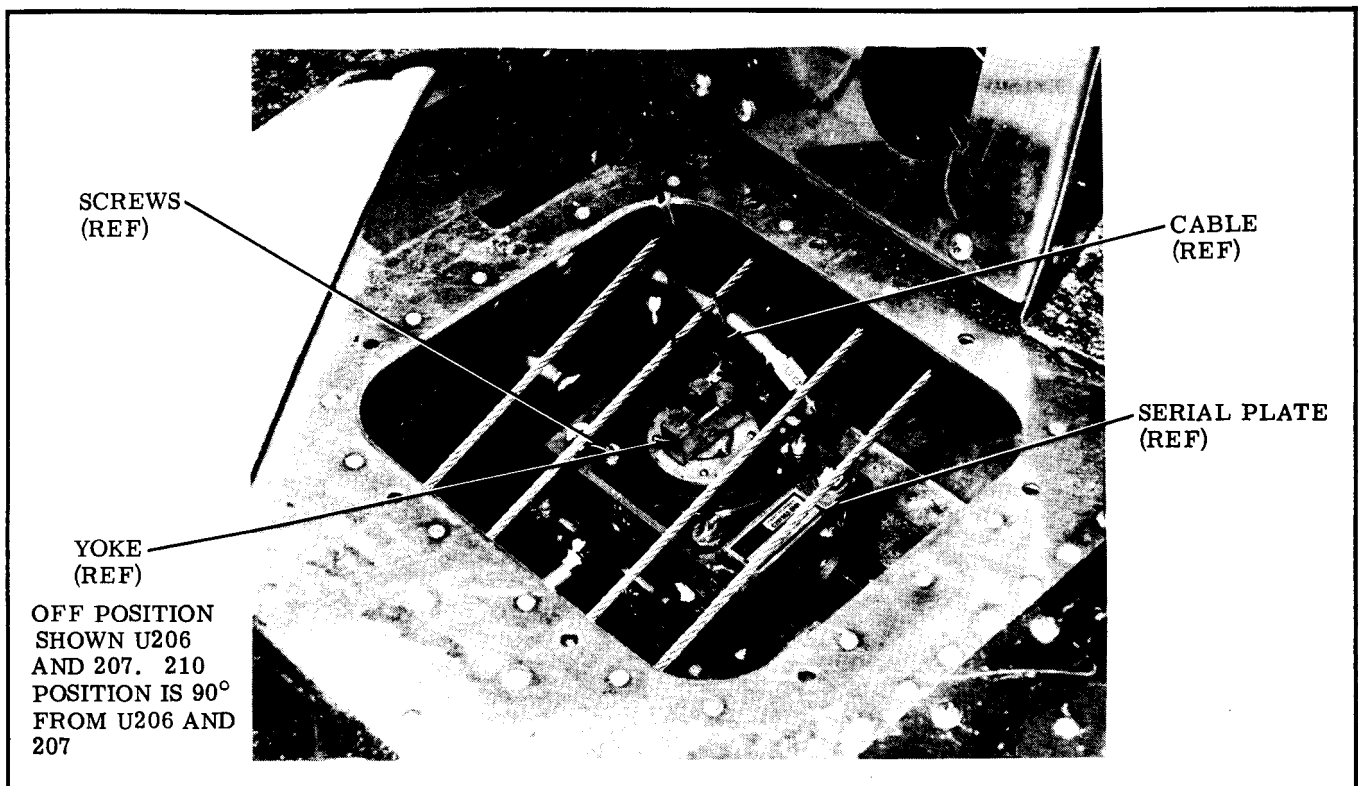

Figure 3.
3. (Refer to figure 3.) Check the selector valve serial number. If valve serial is within 1421 thru 3269, accomplish the pull test inspection covered below. If serial is not within this block, the valve is not affected and aircraft may be returned to service.
7. (Refer to figure 3.) Remove four screws securing selector valve cover.